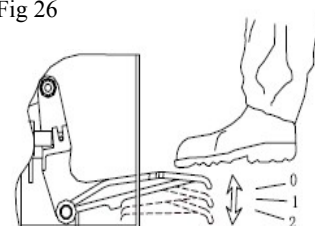
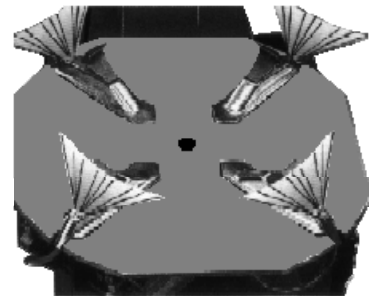

Fig 27
Fig 28
- a. Press Rapid Tire Inflation Pedal to the middle position (Fig 27, position 1), the inflating head should give air.
- b. Press Rapid Tire Inflation Pedal all the way down (Fig 27, position 2), a strong air blast should come from the holes in the four jaws' locking sliders. (Fig 28)